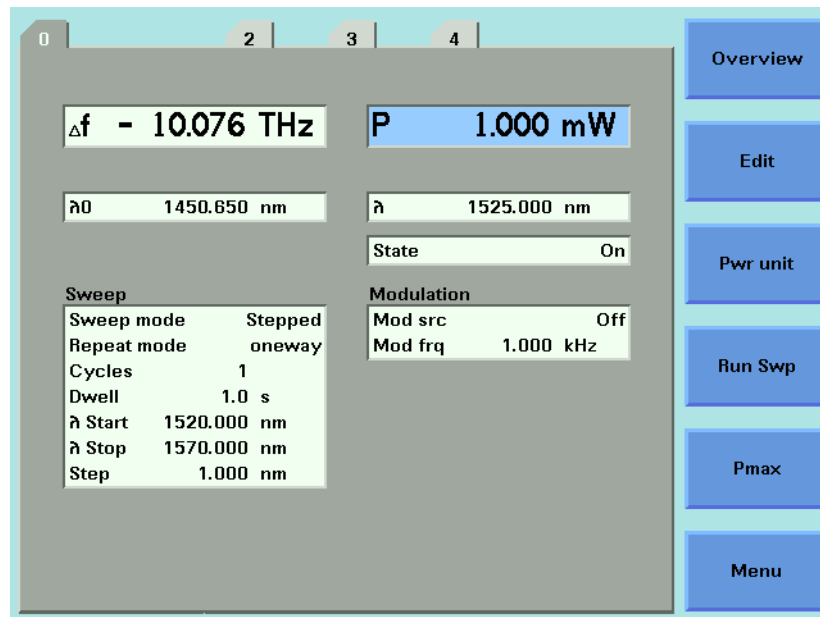

Figure 69 Setting a Relative Wavelength
- 4 Move to *<Offset>*, by using the cursor key, press *Enter*, and press *Close*. You see the screen in Figure 69.